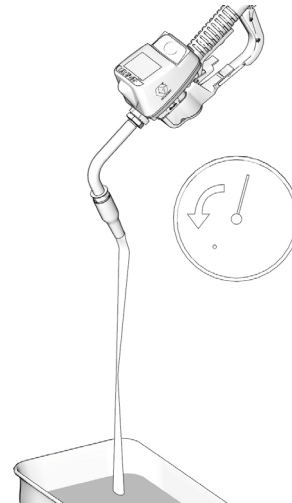

FIG. 2
2. Trigger fluid valve into a waste container until pressure is relieved (FIG. 2).